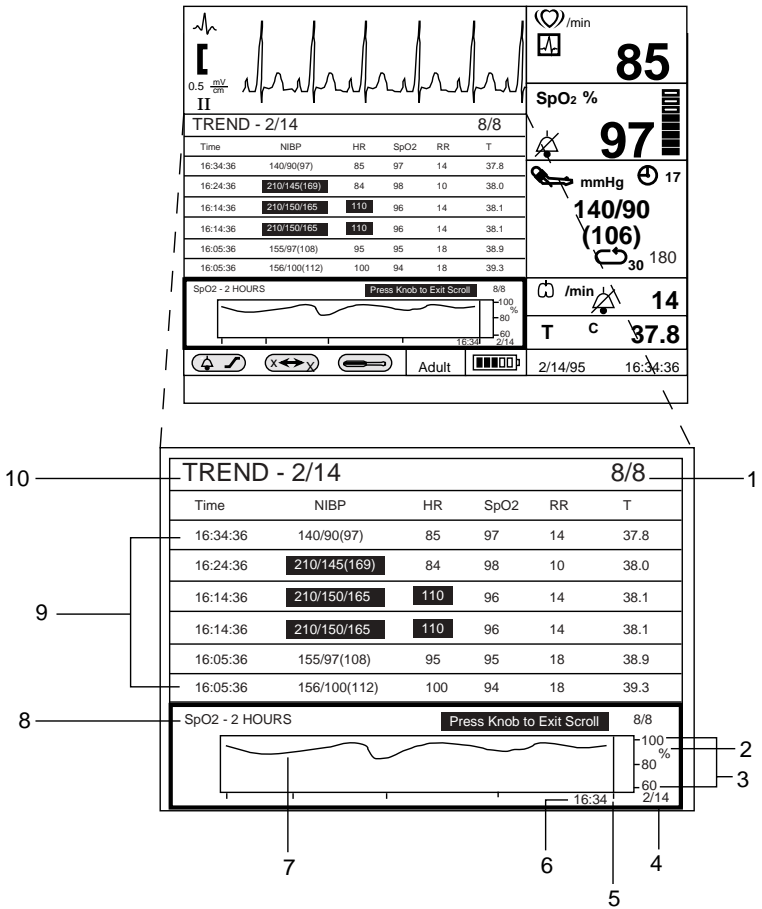

Figure 23: Graphical and Tabular Trend Screens
In Figure 23, page 93, tabular trend data for all monitored parameters is displayed in the middle graphics frame; graphical trend data for the SpO₂ parameter is displayed in the bottom graphics frame.
Figure 23 shows the eighth trend record out of eight stored, as indicated by the **8/8** in the upper right corner of the trend screen (**1/8** would be the current one). The time bar at the right edge of the trend graph indicates the most recent trend value in the display and corresponds to the time value displayed below it.
1. Rotate the knob until the trend graphics frame is highlighted. The highlighting is shown in Figure 23, page 93.